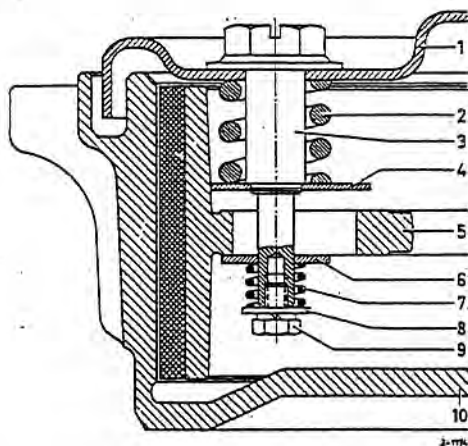

Fig. 42-21/1
**Caution, do not use too much Molykote Paste!** When installing the washer (6) take care to ensure that there is no ridge on the washer and that the smooth side of the washer points toward the brake shoe. Also lightly coat the contact face of the washer with Molykote Paste (Fig. 42-21/1).